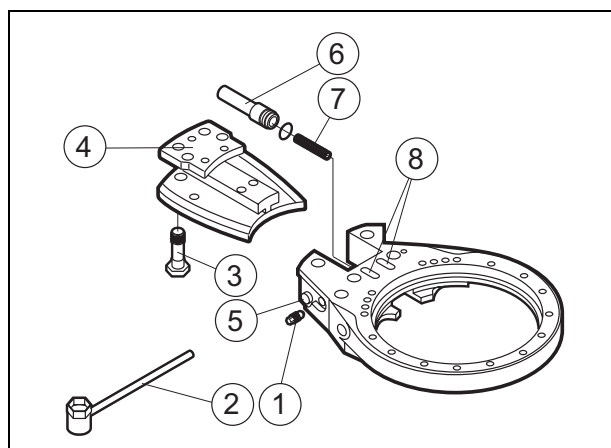

Fig. 44 Replacing saw bar
3. Loosen off the guide screws (3), $W=16$ mm, and pull out the saw bar. *See Fig. 44.*
4. Replace the saw bar and tighten the guide screws (3).